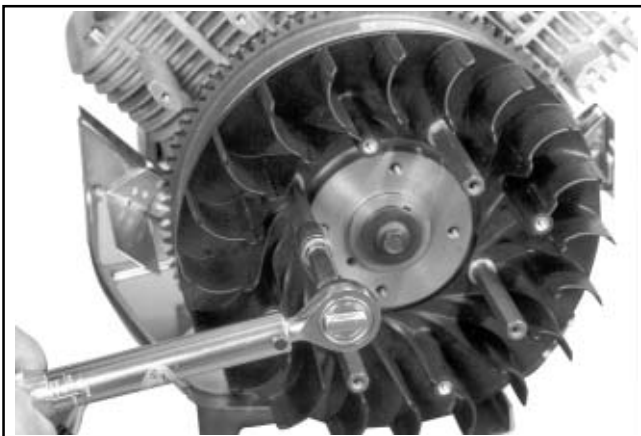

Figure 11-33. Torquing Supports for Metal Screen (Some Models).
2. Tighten the supports with a torque wrench to **9.9 N·m (88 in. lb.)**. See Figure 11-33. The grass screen will be installed to the supports after the blower housing is in place.